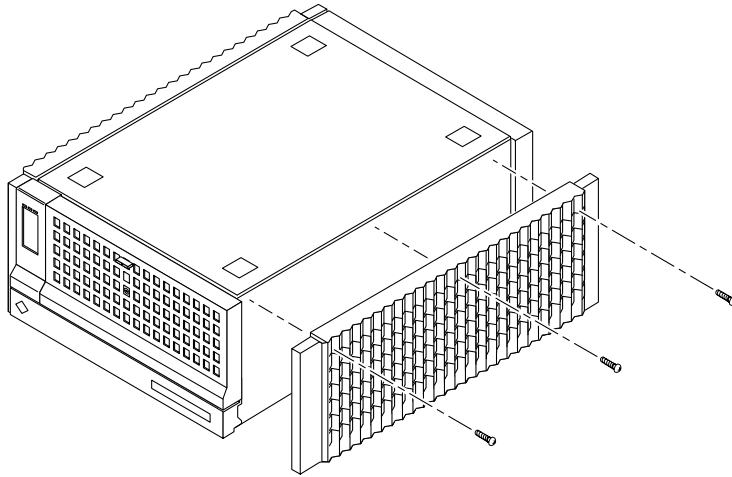

FIGURE 7-18 Removing the Side Panels
6. Remove the side panels (FIGURE 7-18).